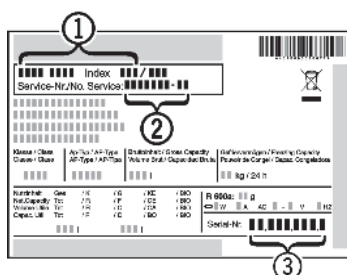

Fig. 12
- ▶ Read the appliance designation *Fig. 12 (1)*, service no. *Fig. 12 (2)* and serial no. *Fig. 12 (3)* from the rating plate. The rating plate is located inside the appliance on the left-hand side.
- ▶ Notify a qualified service provider, specifying the fault, appliance designation *Fig. 12 (1)*, service no. *Fig. 12 (2)* and serial *Fig. 12 (3)* no.